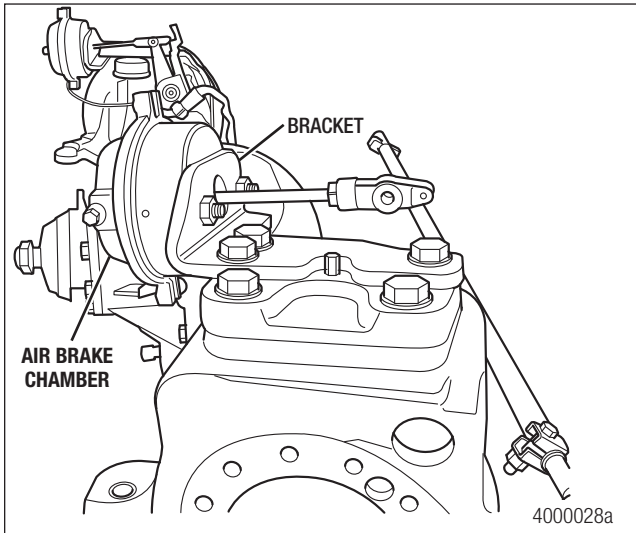

Figure 4.17
8. Remove the air brake chamber and bracket. Figure 4.17.